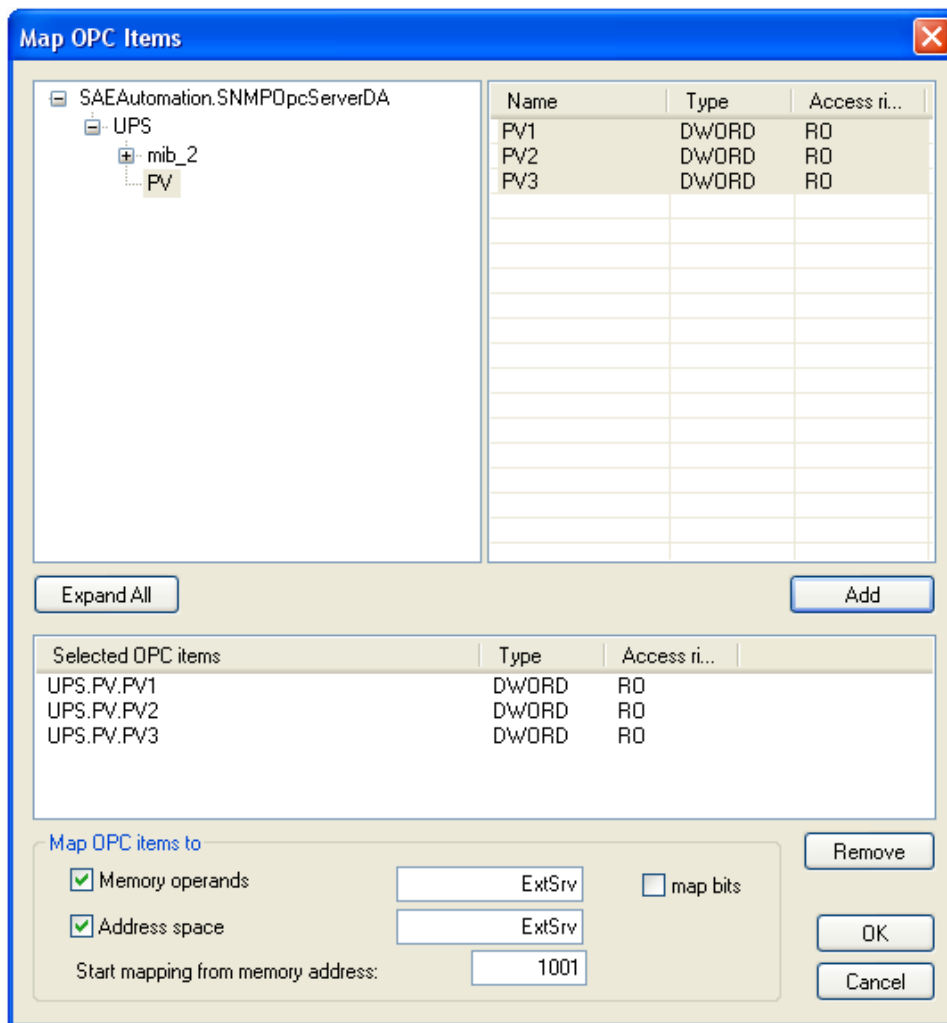

Figure 4: Map OPC Items dialog: Example of mapped OPC items from an external OPC Server.
5. Click on **OK** button (Please see Figure 4).